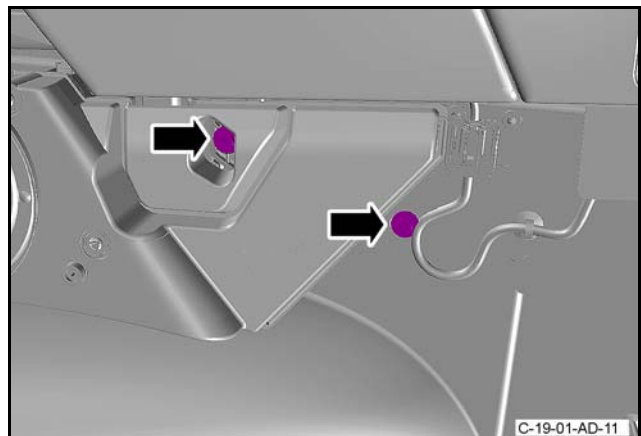

Figure 9
24. Remove the two screws that attach the footwell speaker to the body and remove the footwell speaker (refer to Figure 9).